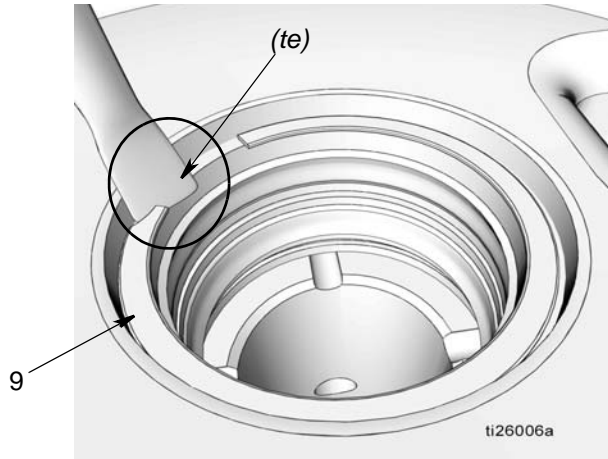

FIG. 26
- a. Slide the blade of a small, flat screw driver under the tapered edge (*te*) of retaining ring (9) and remove the ring as shown in FIG. 26.
- b. Remove the tapered spacer (10), seal (11), and spacer (12).
- c. Use the blade of a small, flat screw driver under the tapered edge (*te*) of retaining ring (51) to remove the ring as shown in FIG. 26 and remove the retaining ring.
- d. Remove spacer (12), seal (11), and spacer (12).